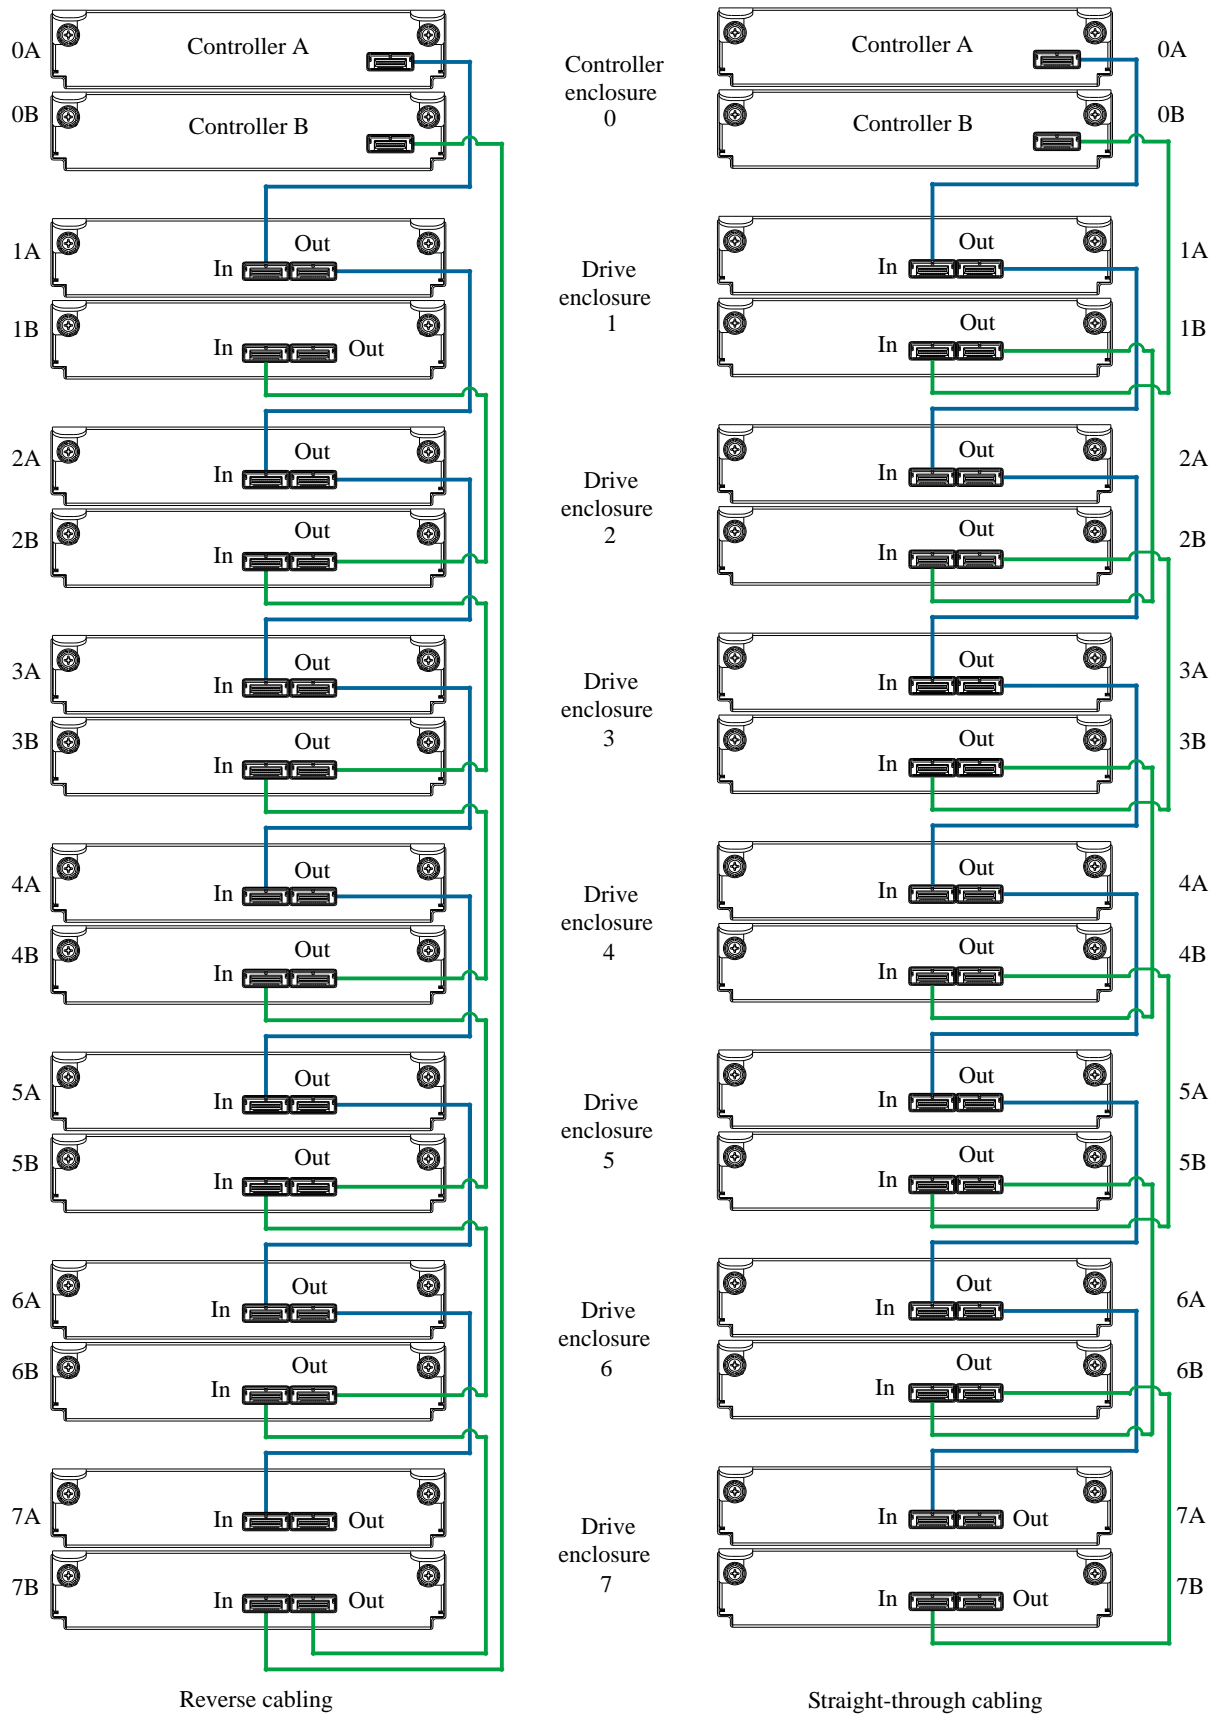

Figure 11 Cabling diagrams for maximum configuration
- You may need to order additional or longer cables when reverse-cabling a fault-tolerant configuration (see Figure 11 on page 27).